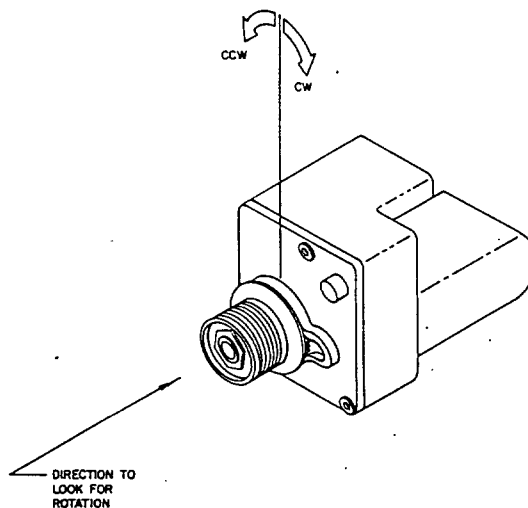

FIGURE 5-A SLIP CLUTCH VALUES & CAPSTAN DIRECTION
- A. Servo slip clutch torque settings are adjustable and must be set to the appropriate value shown in Figure 5-A prior to servo installation. The fixtures and tools required to perform the clutch adjustments are supplied with the KTS 158 Autopilot Tester (071-5064-00).
- B. Remove the cable guards from the servo and attach it to the Test Stand (047-4238-01) as shown in Figure 5-B. Place the appropriate Adapter (071-1260-04, 071-6021-03 or 071-6066-02) over the capstan and secure by inserting the Adapter Pin(s) (071-6021-02 or 071-6065-00). (See Figure 5-B.)